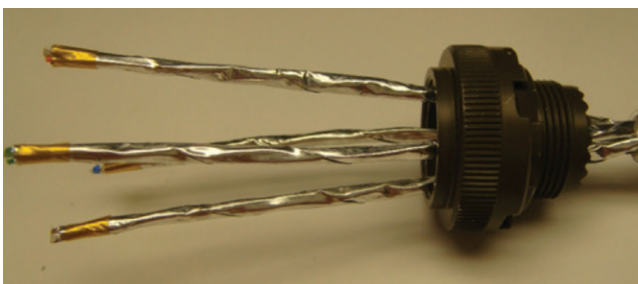

Figure 18: Positioning the grommet near the braid
10. Slide the connector grommet toward the braid as close as possible (Figure 18).